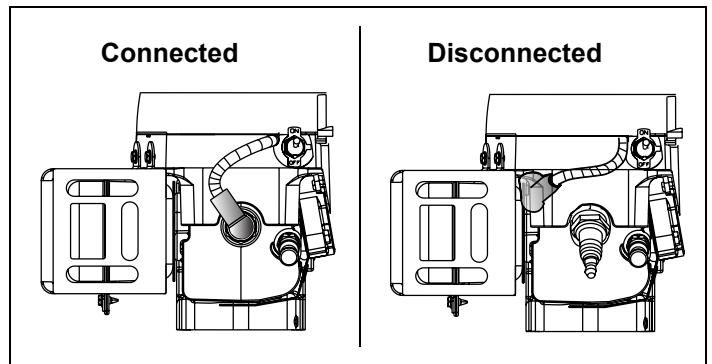

Figure 17. Disconnecting/Connecting Spark Plug
- Disconnect spark plug wire and keep it away from spark plug. See "G. Avoid Accidental Starts" instructions on page 2. See Figure 17.